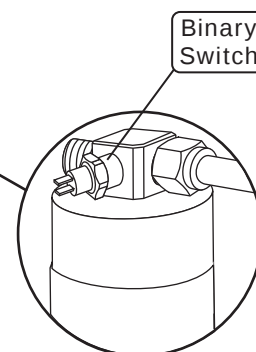

Figure 1
1. Install the binary switch onto the drier as shown in Figure 1 and Photo 1, below.